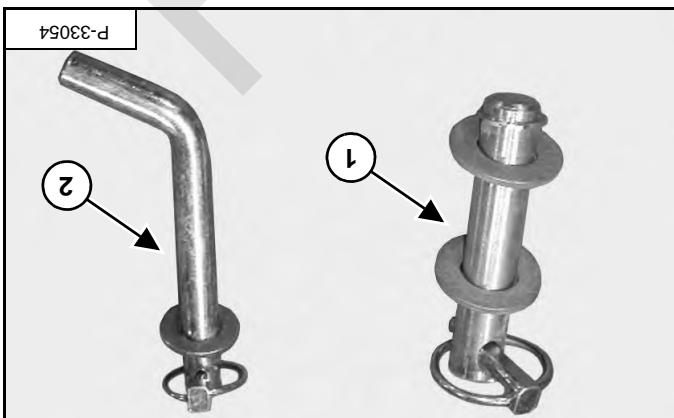

Figure 7
NOTE: The model 10 auger, will only accept round drive auger bits and uses the mounting hardware (item 1) [Figure 7].
NOTE: The auger bit mounting hardware (items 1 or 2) [Figure 7] is different for attaching the auger bit.
Mounting hardware for the round drive auger bits (item 1). Mounting hardware for the hex drive auger bits (item 2) [Figure 7].